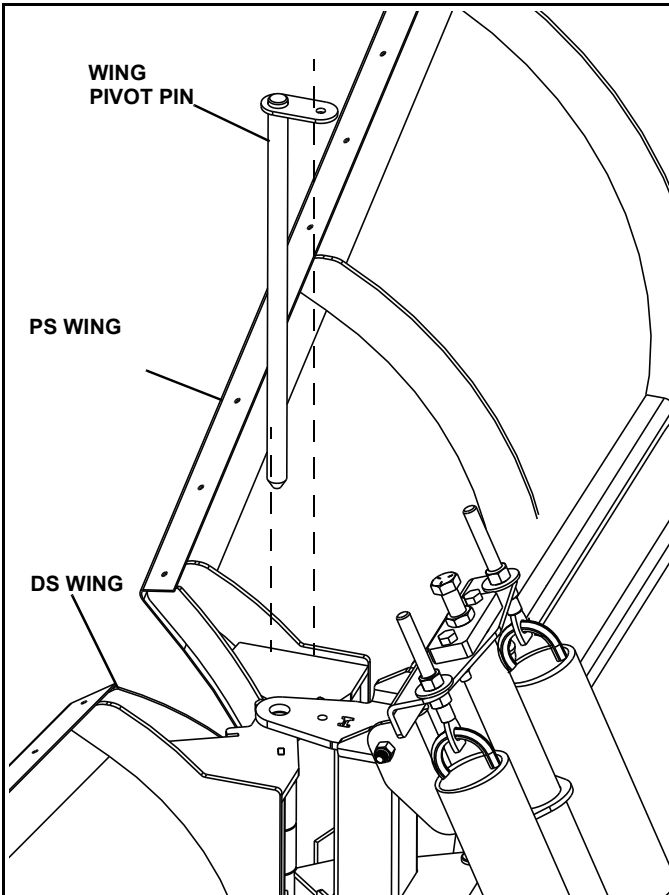

Figure 1-4
8. Coat main wing pivot pin with grease and insert through the tower and wings. Leave top of pin approximately 1" above the tower. (See Figure 1-4.)